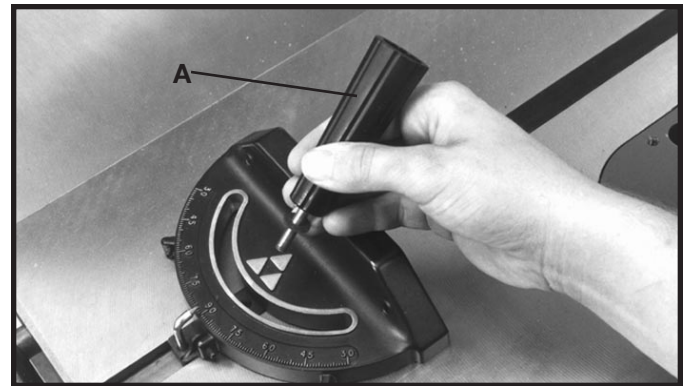

Fig. 47
Insert the miter gage bar into the miter gage slot and assemble the washer and lock handle (A) Fig. 47, to the miter gage bar as shown.